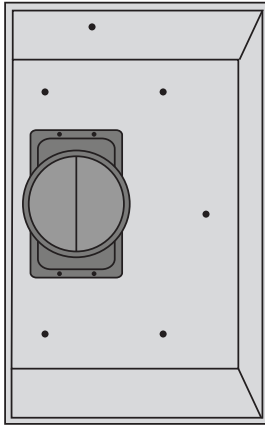

Figure 8
- For additional support, use pre-drilled holes and mounting screws to attach side and top of the range hood (see figure 8 and 9).